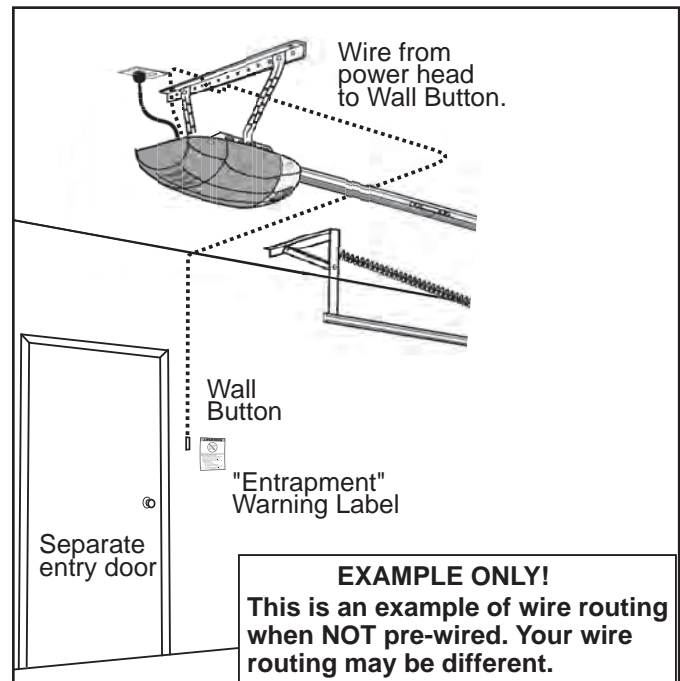

FIG.3-1 Wall Button wire routing
- Locate Wall Button pre-wired wire ends (**Fig. 3-1**). (They should be located within the guidelines mentioned above.)
- Pick a convenient location for mounting Wall Button using the guidelines mentioned above (**Fig. 3-1**).
- Run wire from Wall Button to power head (**Fig. 3-1**).